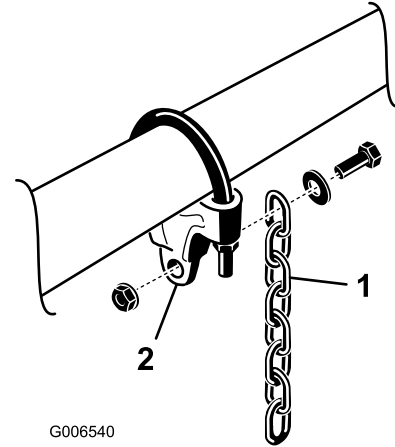

Figure 8
7. Mount a lift chain to each chain bracket with a screw, a washer, and a nut, positioning them as shown in Figure 8.